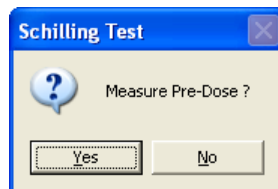

Figure 10-16
5. If the **Pre-Dose** Measurement option was set to YES in the setup, the screen prompts you to measure the pre-dose urine sample (patient blank) as shown in Figure 10-16.